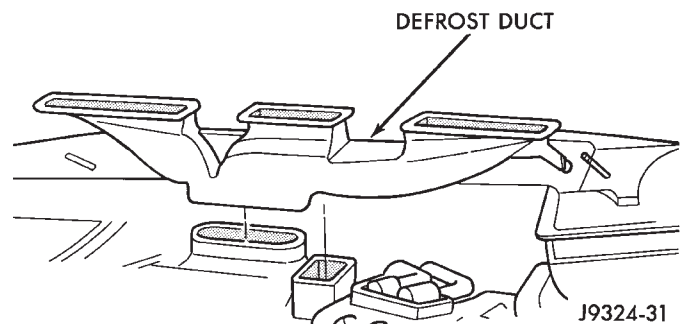

Fig. 32 Defrost Duct
(1) Remove the instrument panel (refer to Group 23, Body).
(2) Remove the defroster duct retaining screws.
(3) Remove the defroster duct (Fig. 32).